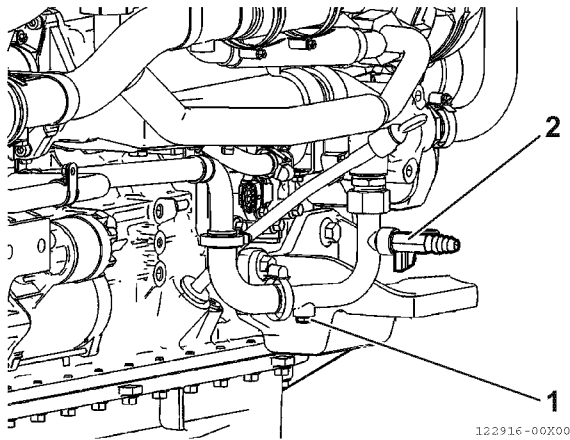

Figure 10
- Unscrew the plug (Figure 10, (1)) or disconnect the cab heater pipe (Figure 10, (2)). During assembly, tighten the plug to the specified torque.